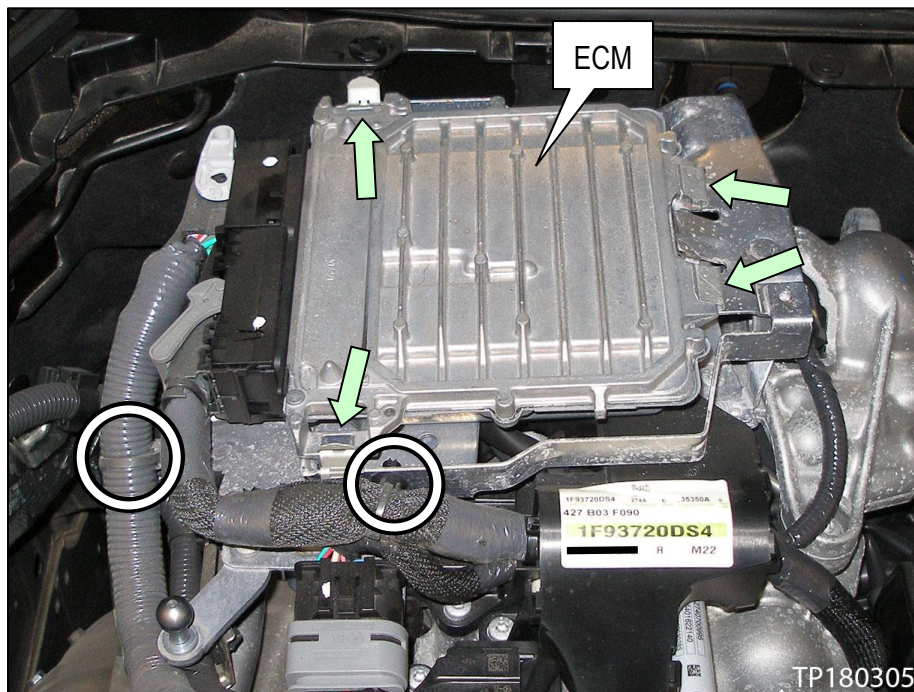

Figure 4
- a. Unfasten the two (2) electrical harness clips (see circles in Figure 4).
- b. Unfasten the ECM from its four (4) clips (see arrows in Figure 4).